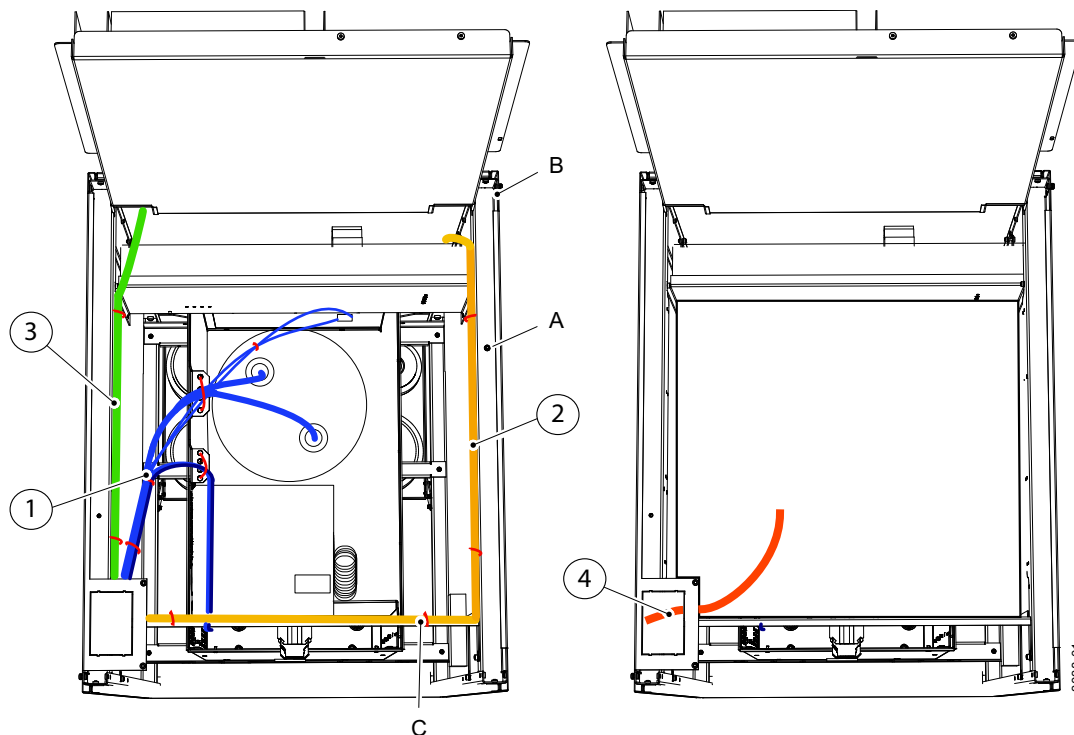

Fig. 4-37 Cable Paths 1–4
1. Remove screw (A) according to **Fig. 4-37**.
2. Lift up the electrical plate 4.4 and secure it with screw (A) in position (B).
2. Wiring to generator, is made according to path 1, **Fig. 4-37**.
Wiring to electrical plate 4.2 is made in accordance with cable path 2, **Fig. 4-37**.